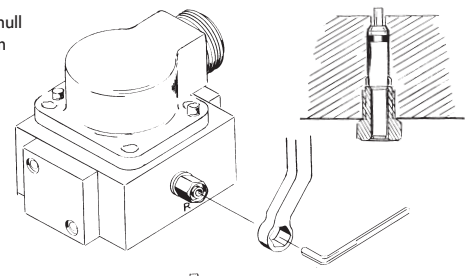

Figure 2
It is often desirable to adjust the flow null of a servovalve independent of other system parameters. The "mechanical null adjustment" on the Moog (G)730K series servovalve allows at least $\pm 20\%$ adjustment of flow null. The "mechanical null adjustor" is an eccentric bushing retainer pin located above the return port designation on the valve body (see Figure 2) which, when rotated, provides control of the bushing position. Mechanical feedback elements position the spool relative to the valve body for a given input signal. Therefore, a movement of the bushing relative to the body changes the flow null.